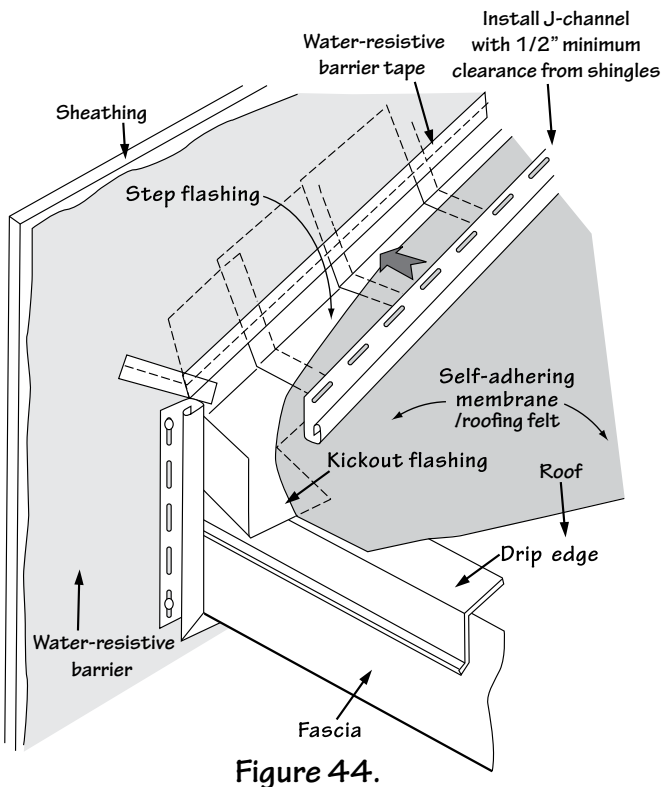

Figure 44.
- As an alternative to the diverter, create a “kickout” from metal flashing, as shown in Fig. 44.
**NOTE:** “Kickout flashing” (Fig. 44) is an additional flashing strip that extends beyond the edge of the fascia that is required in some cold-climate localities.